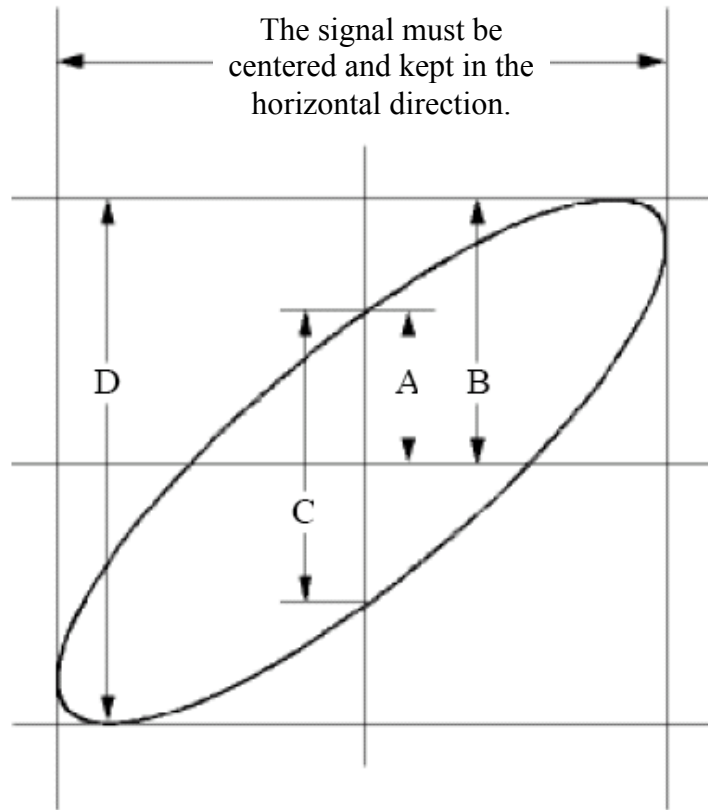

Fig.6-6 Lissajous Graph
- (8) With the elliptical oscillogram method adopted, observe and calculate the phase difference (see Fig.6-6).